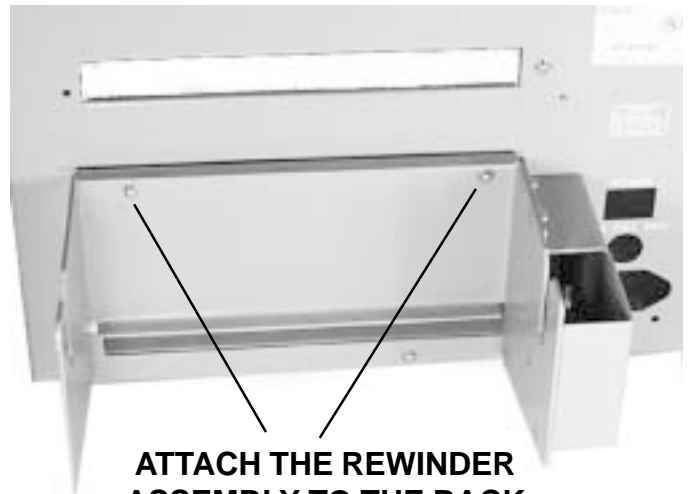

Fig. 9-15
13.	Refer to Fig. 9-8e and Figs. 9-15 & 9-16 Install the rewinder assembly to the back of the printer with (2) screws provided. Run the "O" belt from the rewinder assembly through the back of the printer and onto the rewind pulley installed in step 11.